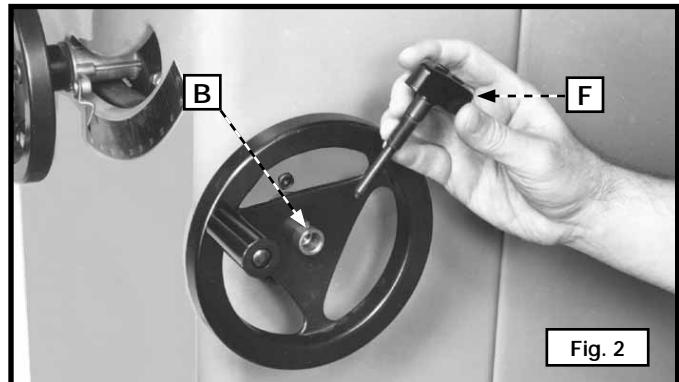

Fig. 2
4. Install the lock knob (F) Fig. 2 into the threaded end of the shaft (B). Hand-tighten the lock knob.